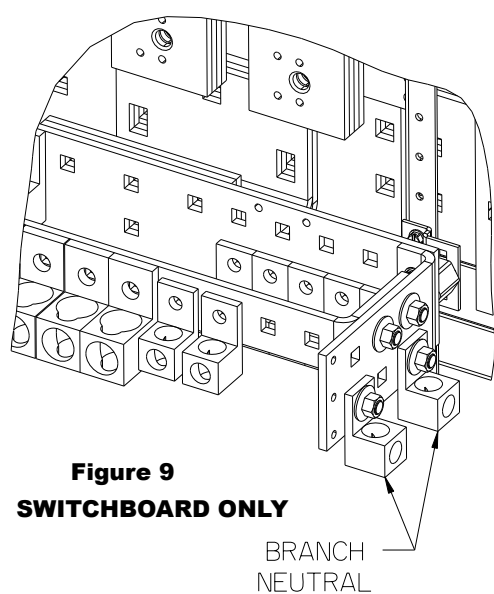

Figure 9
11. Reference fig. 9 - Installing the Branch Neutral Lug (item 2) in a Switchboard. The Branch Neutral is located at the bottom of the "Z-rails", or mirrored at the top depending upon the feed cable location. Two (2) different Neutral lug assemblies are included in the kit, be sure to install the type pictured below. The Neutral lug assemblies can be mounted, as shown, on either side of the Branch Neutral depending on cable feed location. Torque all hardware as specified on the rear of the deadfront.